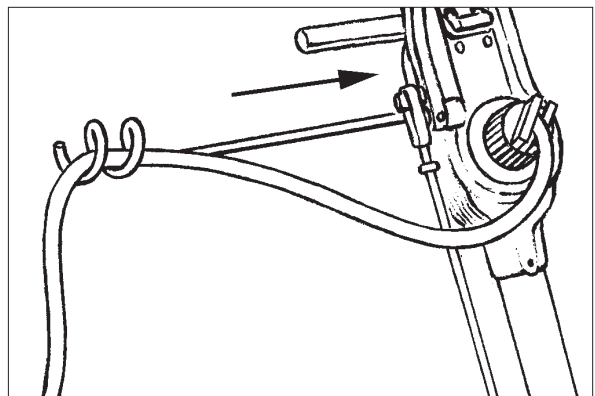

Figure 10
4. Wind the power cord through the cable arm. (See figure 10) Keep the power cord out of path of equipment.